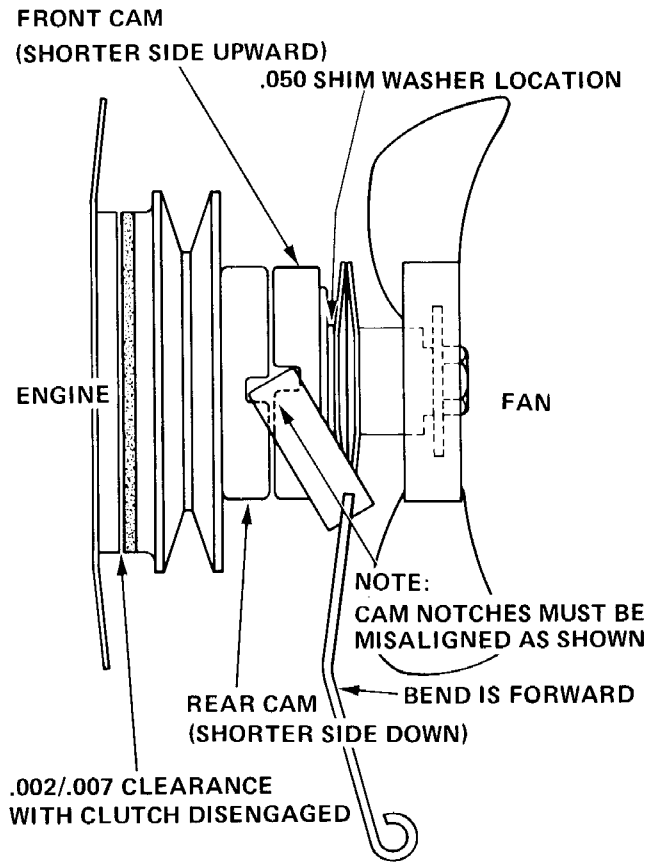

FIGURE 6
- a. Connect the drive hub (1) to the engine flywheel with original four cap screws (20) and new 3/8" lockwashers (21).
- b. Secure the screen and clutch plate to the drive hub with original machine screws (4) and new lockwashers (5). Tighten the machine screws securely.
3. Fit two springs (7) together and place on drive hub. Install .050" shim (8) then match two more springs and install. Place second .050" shim on hub and install the last two springs and .050" shim for a total of six springs and three shims.
4. Place disc pulley and bearing assembly on clutch hub with disc facing backing plate (3). If disc is not bonded to pulley, make sure disc remains on pulley shoulder during assembly procedure.
6. Place rear cam (12) on drive hub (2) or (25) so that notch faces out, then install retaining ring (14) and front cam with notches facing in.
7. See Figure 6. Rotate the cams until the lever notches are misaligned as shown. The rear cam on drive hub must be positioned so the shorter side is downward and the front cam must have the shorter side upward.
11. With the clutch disengaged, check the friction disc. Clearance should measure between .002" and .007". Use two "blade-type" feeler gauges 180 degrees apart when measuring. To increase clearance, add shims (8) or (11) as required between the pulley (9) and rear cam (12).
**NOTE:** If clutch does not engage or disengage properly, check for correct cam assembly according to steps 7 and 8 above. When correctly installed, the facing notches on the front and rear cams are "out of alignment" in the manner shown in Figure 6 with the clutch in both the engaged or disengaged positions. Repeat steps 7, 8 and 11 to correct either friction clearance or cam assembly.